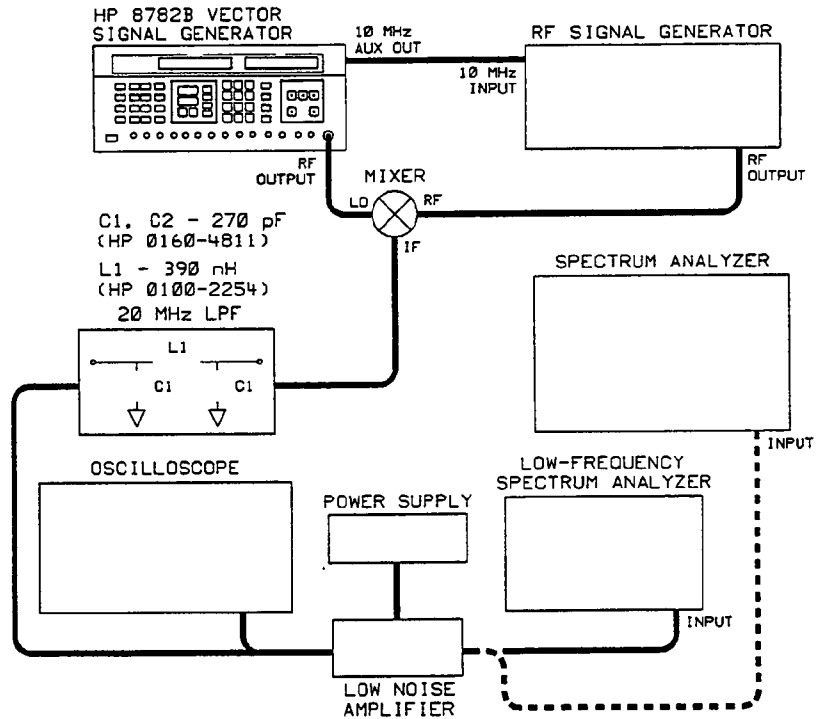

Figure 5-7. Residual SSB Phase Noise Test Setup
| 20 MHz Low Pass Filter | See Test Setup Figure 5-7. |
1. Connect the equipment as shown in Figure 5-7.